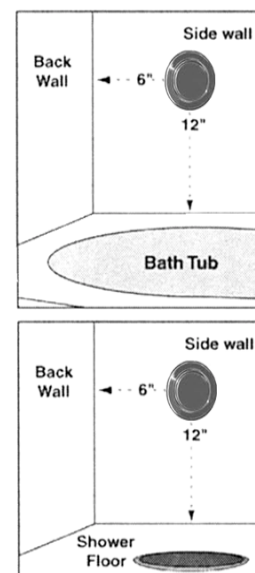

Figure 3a
1. Drill a 2.5" diameter hole in the shower wall or wall above the bathtub rim for the steam outlet line. (Figure 3A) CAUTION: The steam head is **hot** and should not be located near a seat or bench! We recommend locating it on the fixture wall.
1. Drill a 7/8" diameter hole in the shower wall or wall above the bathtub for the steam outlet line. Refer to **figure 3A** as a guide for the proper location of the hole.